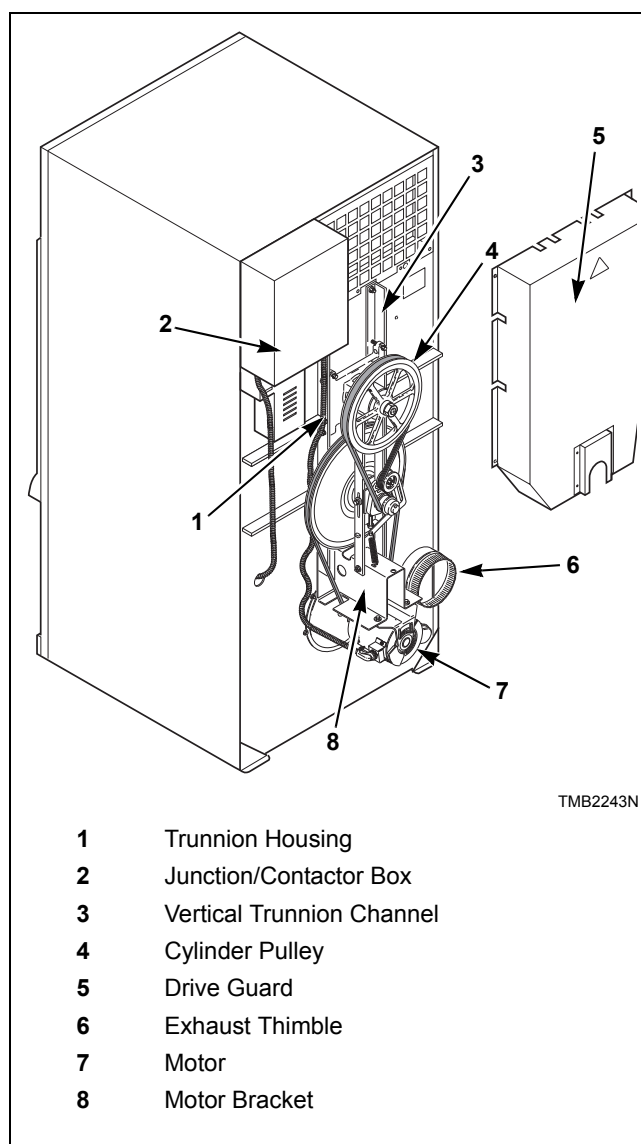

Figure 8
2. Remove the drive guard. Refer to *Figure 8*.
3. Remove the drive belts. Refer to *Figure 8*.
8. Remove the trunnion housing. Refer to *Figure 8*.
10. Remove the motor(s) and motor bracket(s). Refer to *Figure 8*.
12. Remove the junction/contacter box. Refer to *Figure 8*.